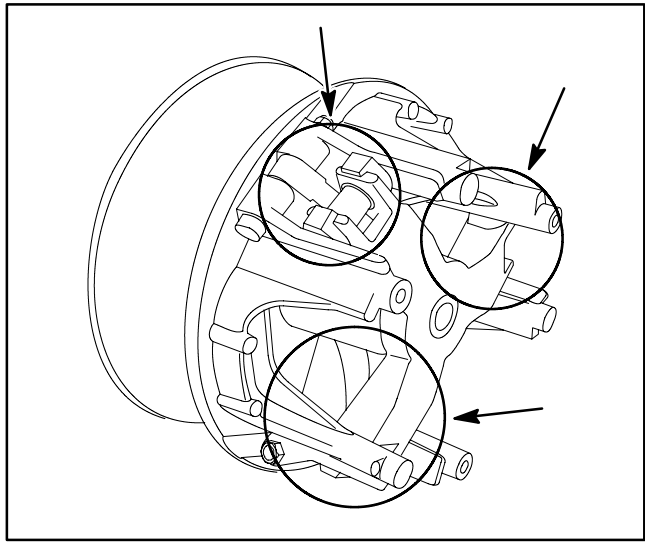

Figure 7
4. Lubricate the clutch components as shown in Figure 7 using Toro Dry Lubricant Spray (see Special Tools in Chapter 5 - Drive Train).
5. Install cover to clutch and secure with three (3) cap screws. Torque cap screws from 75 to 100 in-lb (8.5 to 11.3 N-m).